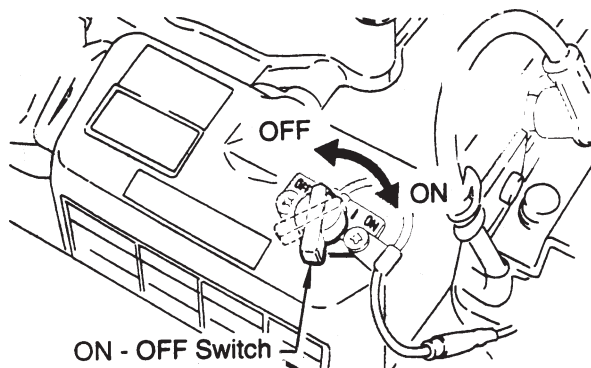
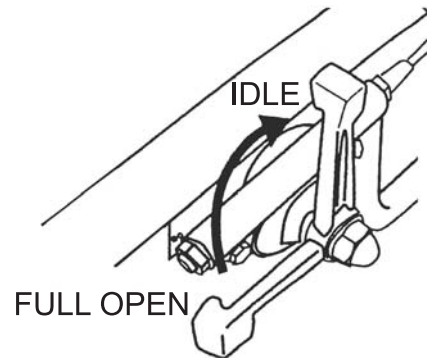

Figure 8. On Off Switch
Figure 12. Throttle Lever (Idle)
2. Set the engine ON/OFF switch (Figure 8) to the **"ON"** position (start).
1. Move throttle lever quickly from the **FULL OPEN** to **IDLE** position (Figure 12) and run the engine for three minutes at low speed. After the engine **cools**, turn the engine start/stop switch to the "**STOP**" position (Figure 8) until engine comes to a complete stop.